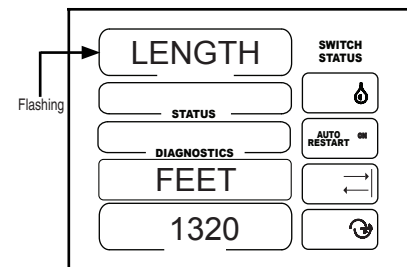

Figure 48-4
1. LENGTH should be flashing. See figure 48-4.